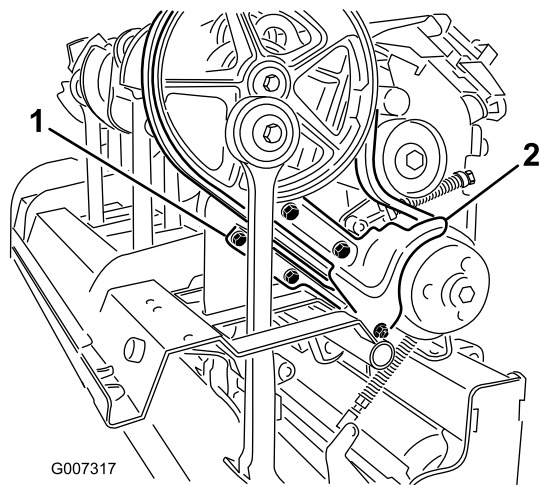

Figure 33
3. Remove the fasteners securing the dirt shield and the lower belt shield (Figure 33) Remove the dirt shield and the lower belt shield.